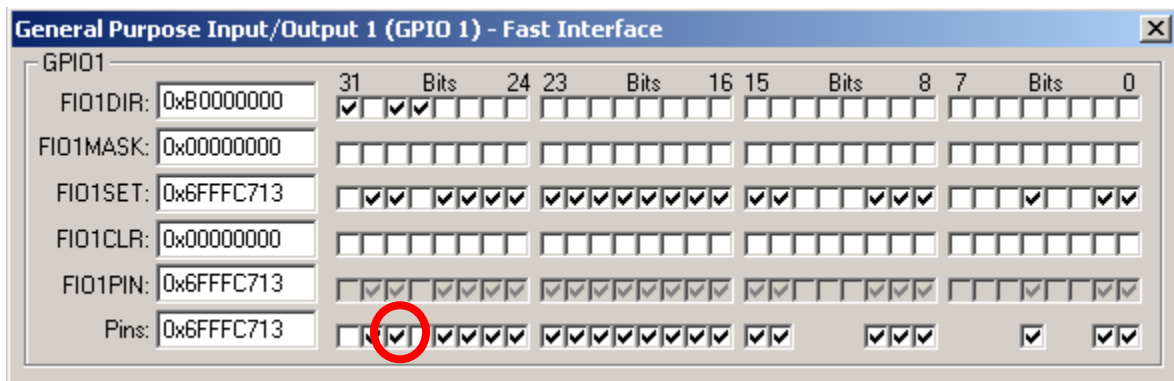

Figure 2 Pin P1.29 is checked on/off every other second or so.
8. You should get the window shown in Fig.2 below, where you can see LED P1.29 blinking. To actually observe this you should wait until the simulated time (shown on the bottom-right side of the uVision ISE window) is longer than 1 second. Note that in order to actually simulate 1 second of execution time of the program, the simulator must run much longer. This is expected, as typically simulators require much longer computational runtimes (wallclock time) in order to simulate relatively short execution times of the program under investigation!